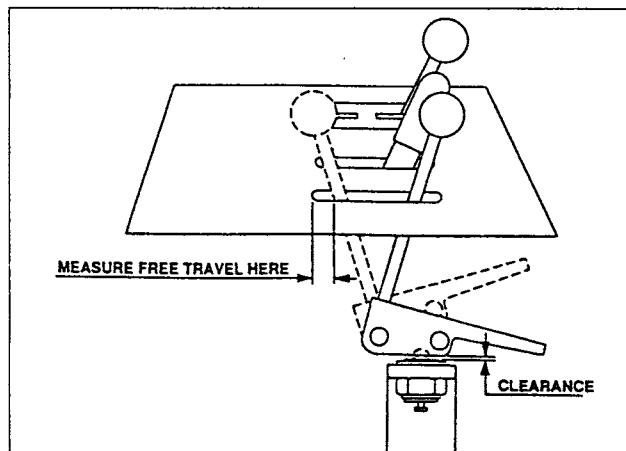

FIGURE 6
The PTO clutch should be adjusted whenever there is less than .5 inches of free travel in the clutch lever when it is in the "ON" position. See Figure 6 to see where this free travel is measured. The free travel should be between .5 inch and 1.0 inch. To adjust:
6. Turn the control rod to change the free travel. Each turn will change it by about .25 inch. Turn clockwise to increase and counterclockwise to decrease the free travel. See Figure 6.